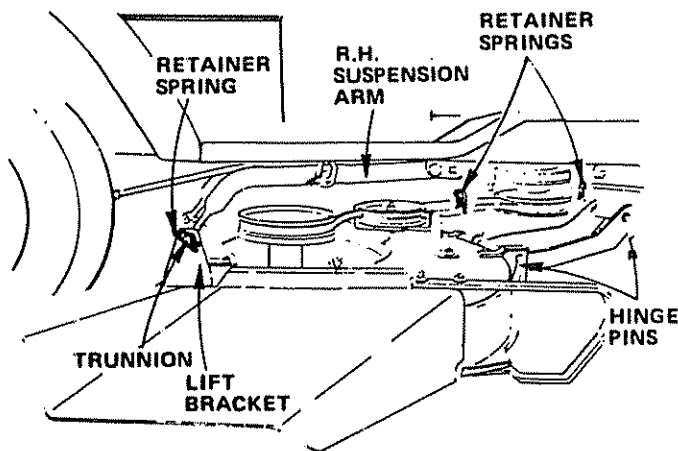

FIGURE 25
- Pull retainer springs out of rear suspension trunnions. Remove rear suspension trunnions from lift brackets (Fig. 25).
- Pull retainer spring out of rear hinge pin. Remove rear hinge pin. (Fig. 25)
- Pull retainer spring out of front hinge pin. Remove front hinge pin (Fig.25).
**NOTE: IF AN ATTACHMENT OTHER THAN THE MOWER DECK IS TO BE MOUNTED ON THE TRACTOR, THE L.H. AND R.H. SUSPENSION ARMS (FIG. 25) SHOULD BE REMOVED FROM TRACTOR.**